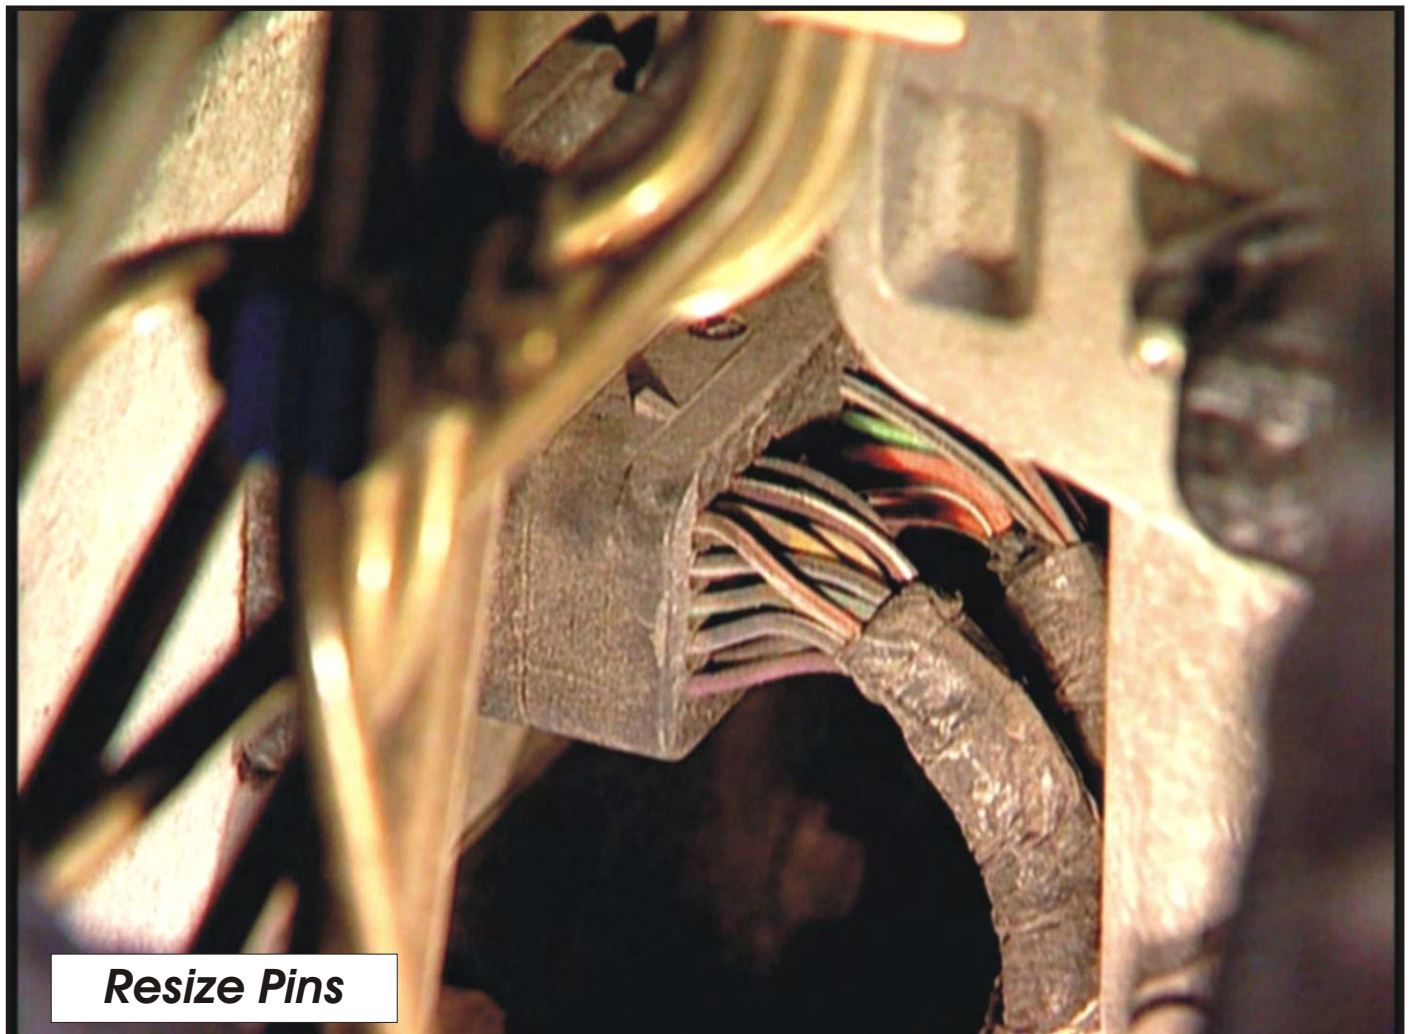

Figure 8
- (5) Repair ECM Connector, resize terminal ends (Figure 8).
- (6) APPS/ECM Relearn Procedure: KOEO, Slowly depress throttle pedal to floor and then